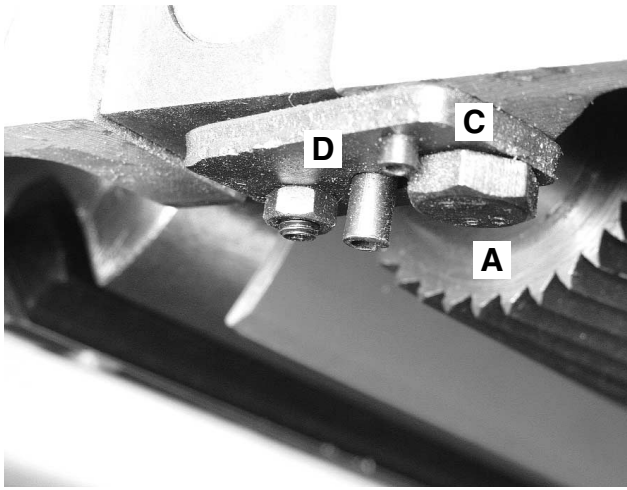
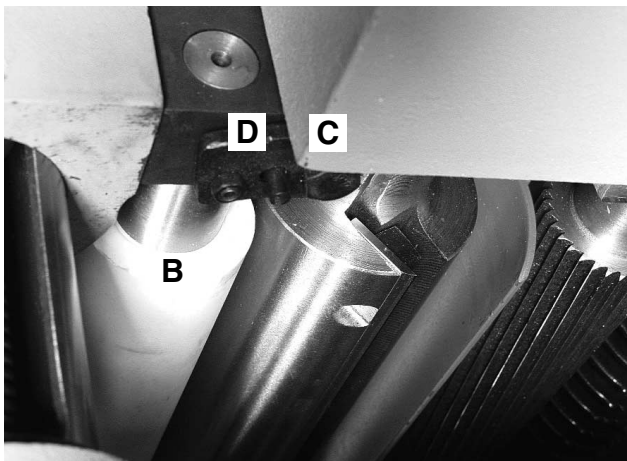

Fig. 9
Fig. 10
The infeed Fig. 9 (A) and outfeed Fig. 10 (B) rollers should be 1mm below the cutting circle of the cutter block. To check this use your wooden gauge block and a 1mm spacer, such as a steel rule. The process is the same for both the in and out feed rollers.
2. If the rollers need to be adjusted, loosen the nuts Fig. 9 & 10 (C), and turn adjusting screws Fig. 9 & 10 (D) until the rollers make contact with the gauge block. Repeat process for the other end of the rollers.